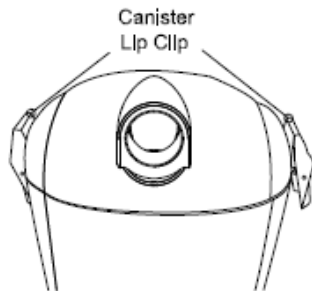

Fig. 1
1. To open the canister lid, pull up the canister lid tabs on each side of the unit and remove canister lid. (Fig.1)